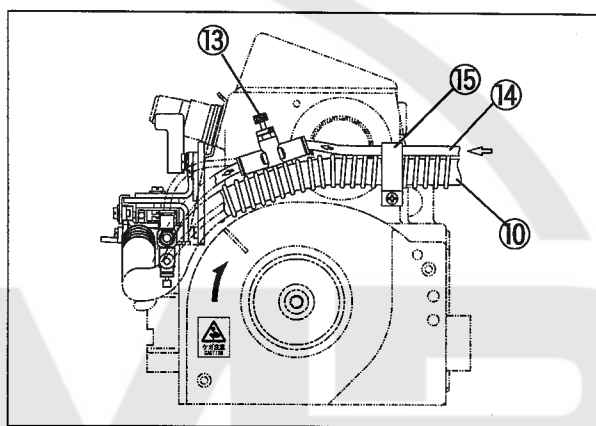

Fig. 13
- (5) Bind the three air pipes⑭ and the suction hose⑩ by the cord clamp⑮ and attach them to side of machine frame. (Fig. 13)